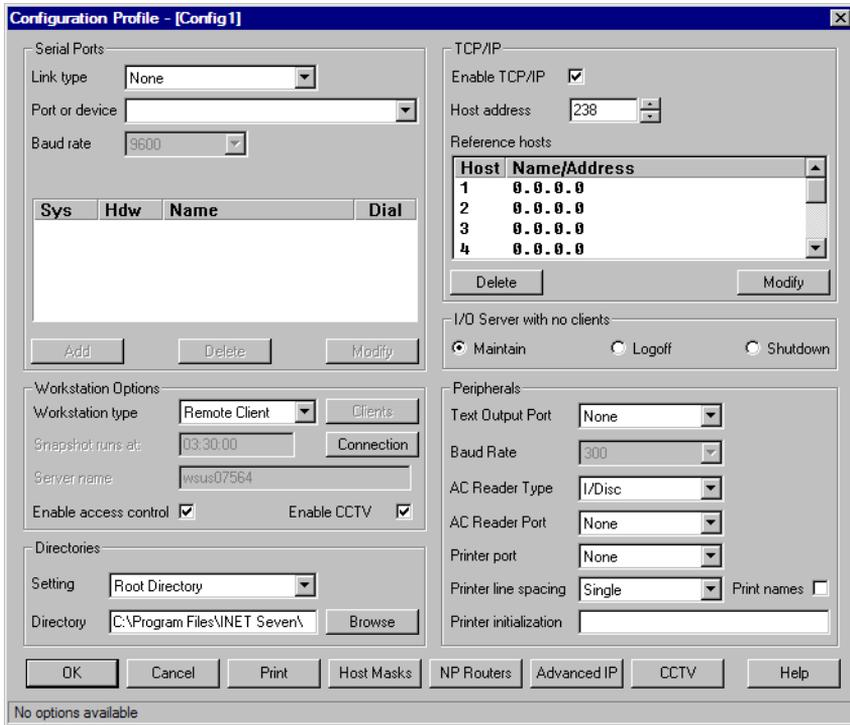

Figure 3-4. Configuration Profile Editor
- ◆ When you change the setting of the Workstation Type parameter in the Configuration Profile Editor (see Figure 3-4 on page 3-12).
To modify “*Config1*”, or any other existing profile, select the profile in the Configurations list and click **Modify**. If I/O server is running, the Configuration Profile editor (Figure 3-4) displays.